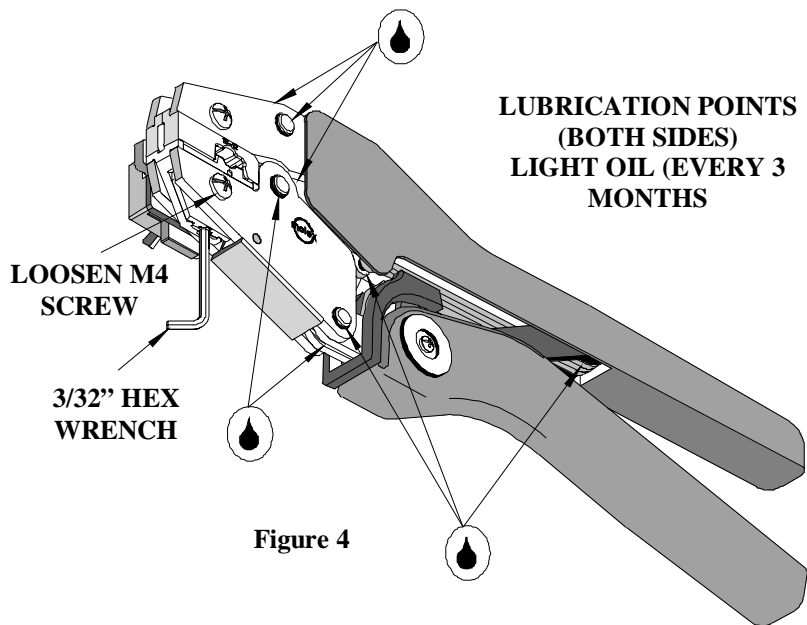

Figure 4
3. Make certain all pins; pivot points and bearing surfaces are protected with a thin coat of high quality machine oil. Do not oil excessively. The 64001-4800 (RHT-2251) was engineered for durability, but like any fine piece of equipment it needs cleaning and lubrication for a maximum service life of trouble-free crimping. A light oil, such as 30 weight automotive oil used at the oil points shown in Figure 4, every 5,000 crimps or 3 months will significantly enhance the tool life and ensure a stable calibration.